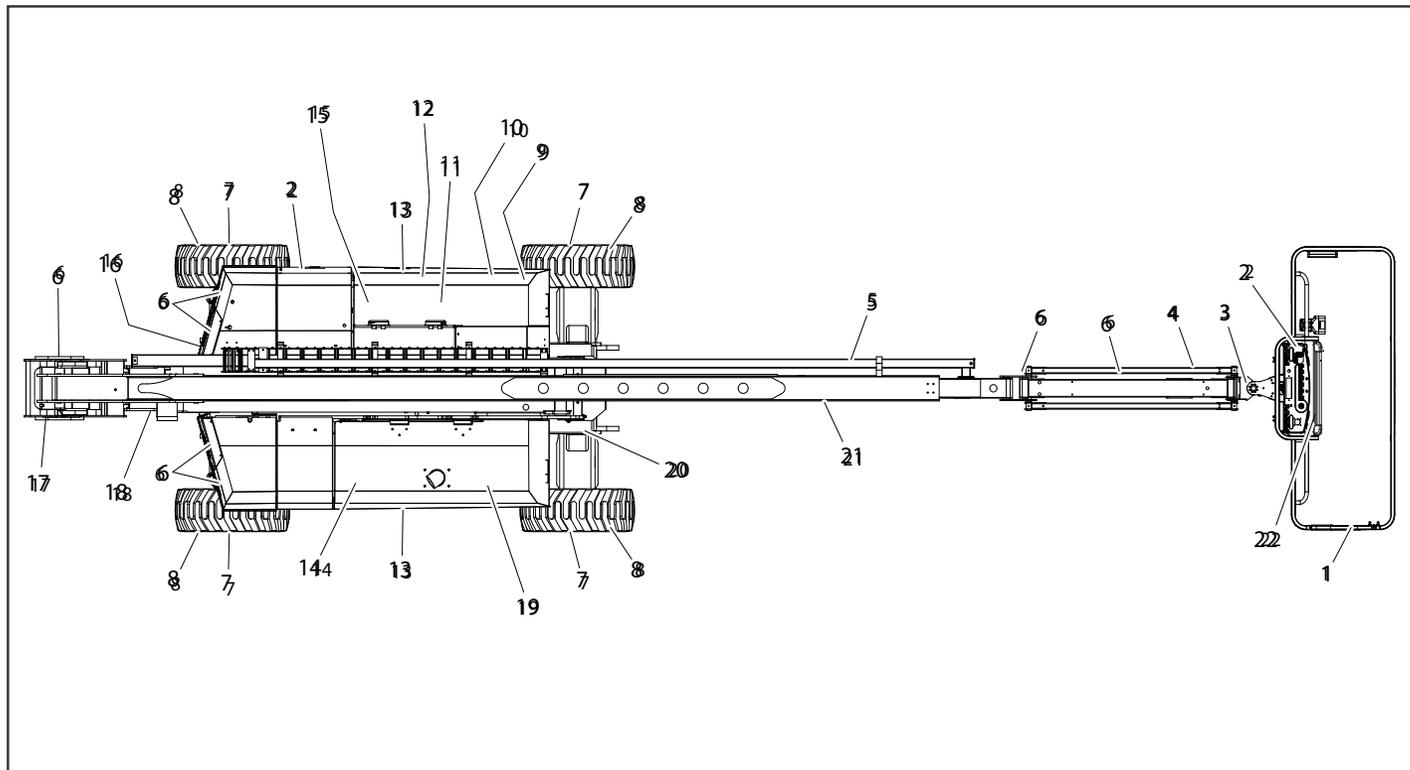

Figure 2-4. Daily Walk-Around Inspection (Sheet 3 of 3)
5. **“Walk-Around” Inspection** – Refer to Figure 2-4.